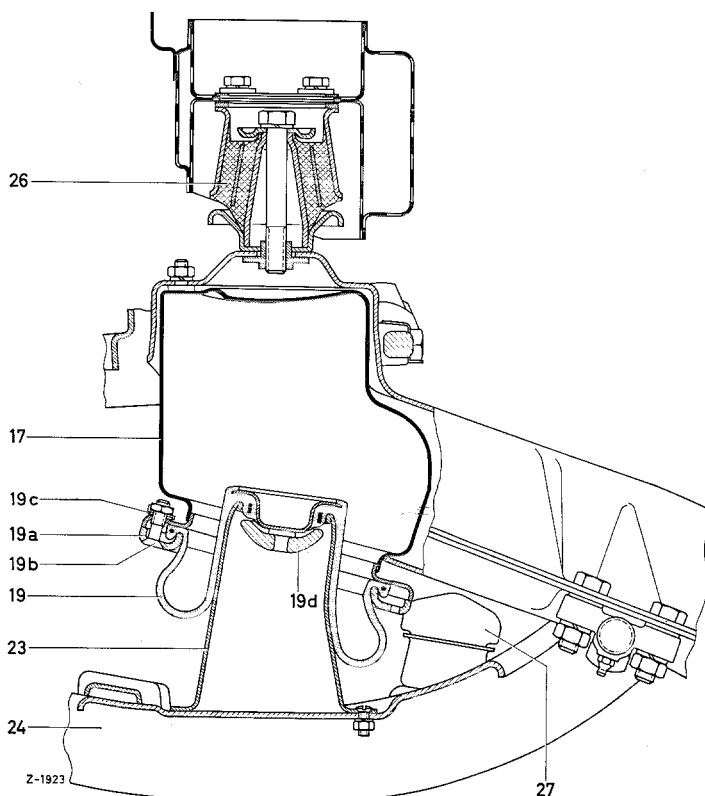

Fig. 32-10/3
Air chamber and bellows are screwed together as a unit (Figs. 32-10/2 to 4). The air chamber has a pipe union for the main air line. For details about the line system see Section D 'Control System'.
The bellows are of the 'rolling bellows' type (Figs. 32-10/3 and 4). This relatively low design produces sufficiently large spring travel. When the springs are fully depressed the bellows roll over the spring piston (23). The shape of the spring piston is essential for progressive springing, i. e. smooth initial springing with increasing hardening toward the end of the spring stroke.